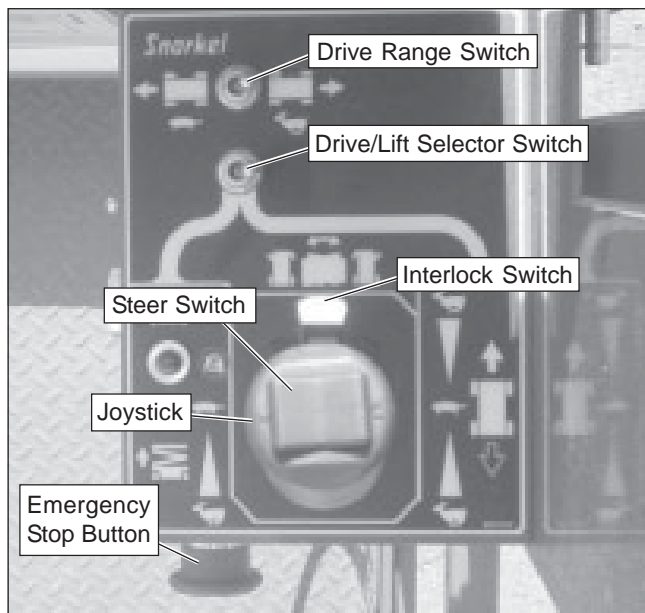

Figure 9.2 – Upper Controls
The upper controls (refer to Figure 9.2) may be used for driving the aerial platform and positioning the platform while on the job.
1. Place the drive/lift selector switch (refer to Figure 9.2) in the drive position.
The steer control switch is located on the joystick (refer to Figure 9.2). Use the following procedure to steer the aerial platform using the upper controls.
1. Place the drive/lift selector switch (refer to Figure 9.2) in the lift position.